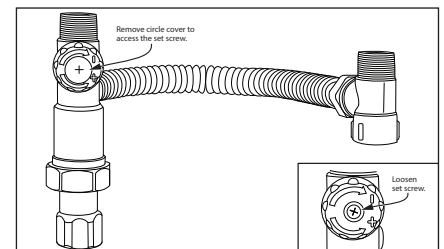

Figure 15 - Install the provided mixing valve on the primary cold water inlet line and hot water outlet line of the hot water storage tank.
**1** Properly install the provided mixing valve on the primary cold water inlet line and hot water outlet line of the hot water storage tank. This provided mixing valve is designed to increase the amount of usable hot water from the unit and to prevent scalding. The mixing valve can be adjusted from 95°F (35°C) – 130°F (54°C). Use a 3/16" allen wrench to set the mixing valve to the desired temperature. If the mixing valve has a white knob, remove the plus circle and use a Philips screwdriver to loosen the set screw. Adjust the mixing valve to the desired temperature, then tighten the set screw back (Figure 15).